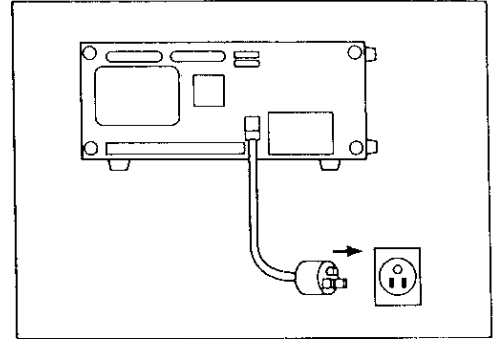

Fig. 9
3. Plug the power cord into the power source (see specifications) using the three (3) prong plug supplied with the unit. (fig. 9)